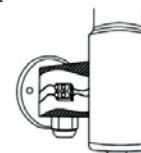

Рис. 4
2. Put the connecting plinth in the protecting cover, fasten the two parts of protective cover by the small screws and place itinside the connection box (see figure 4).